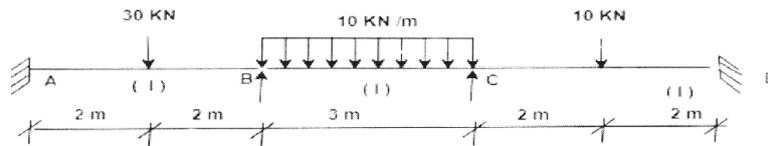

Figure 1
**Q1) a)** Analyze the beam shown in figure 1 by Slope Deflection Method. Draw BMD. **[12]**